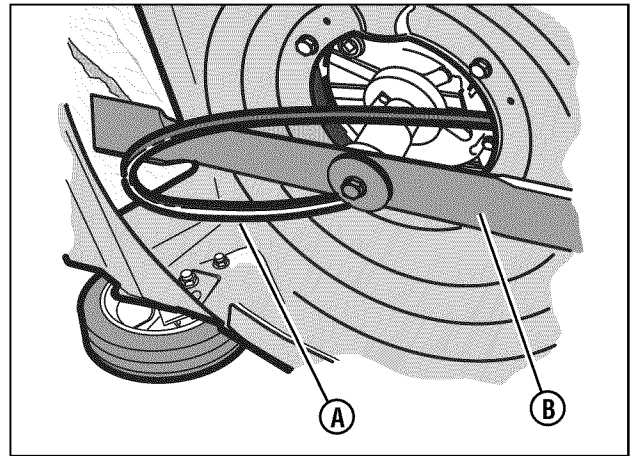

Figure 19: Removing the belt
4. Remove the front of the drive belt (B) from the transmission pulley (C).
5. To remove the rear of the drive belt (A, Figure 19), slip the drive belt over the end of the blade (B).